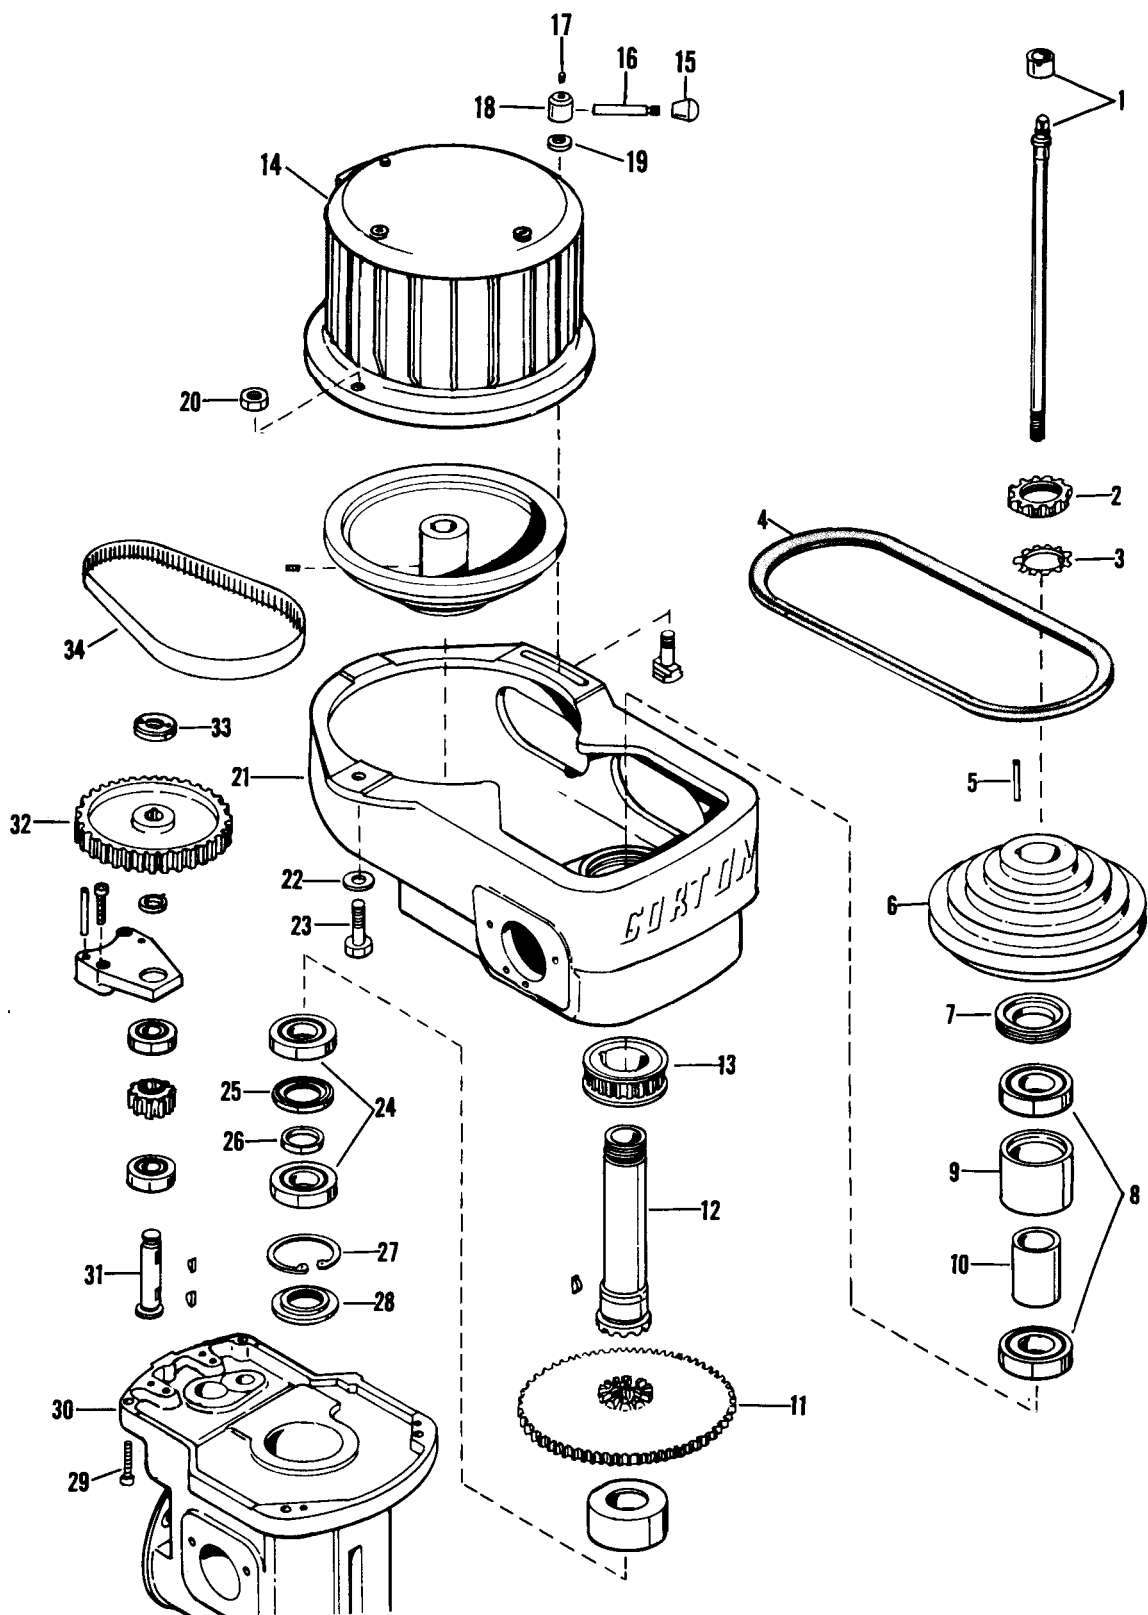

Figure 22. Replacing Bull Gear Bearings--Standard Head
50. REPLACING BULL GEAR BEARINGS--STANDARD HEAD (figure 22)
9. Remove the ball bearing locknut (2) and ball bearing lockwasher (3).
10. Remove the four capscrews (29) holding the spindle pulley housing (21) to the spindle head (30).
12. Remove the spindle pulley (6) and key (5).
13. Lift the spindle pulley housing (21) off of the machine. If the pulley sleeve (12), does not remain in its position, it may be necessary to rotate the spindle so timing belt (34) will disengage from timing belt spindle pulley (13).
14. Unscrew the counter shaft nut (33) and take off the timing belt (34). Lift the timing belt pulley (32) off of the counter shaft (31).
15. The bull gear assembly (11) can now be removed over the top of spindle.
16. Take off the bearing nut (28) and slide the bull gear retainer (27) and bearings (24) from the bull gear.
17. Press out the bearings (24) and the two spacers (25 and 26).
51. REPLACING PULLEY HOUSING BEARINGS--STANDARD HEAD (figure 22)